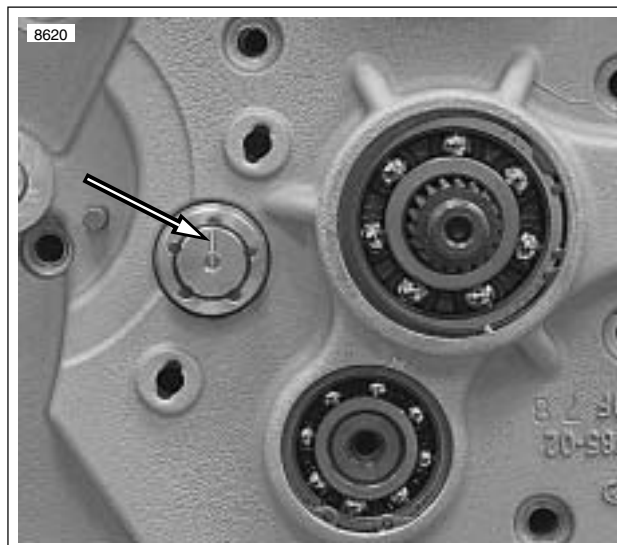

Figure 6-52. Scribed Line on Shifter Drum at 12 o'clock (Transmission in Neutral)
14. See Figure 6-52. Scribe a line on the end of the shifter drum at the 12 o'clock position for later reference.